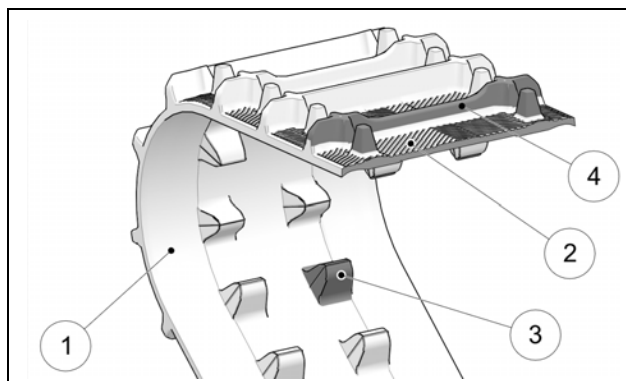

Figure 36
Verify wear on Track by inspecting the internal (1) and external (2) rolling path, the driving lugs (3), the track treads (4). Make sure that the Track's internal structure is not visible where cuts have occurred or in worn areas. See Figure 36.